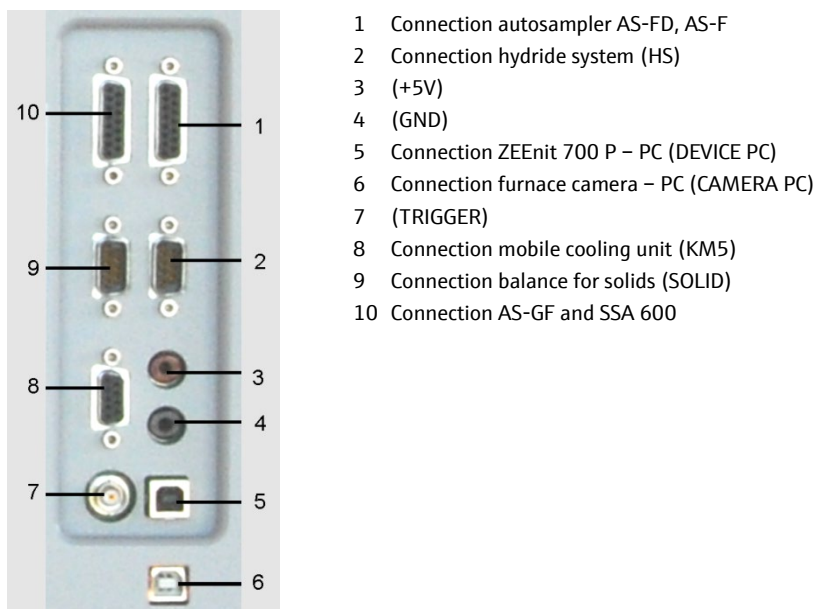

Fig. 23 Bar for supply and control connections
7. Connect the PC and the ZEEnit 700 P with USB cable (5 in Fig. 23 p. 47).
3. Connect the control cable of the KM 5 to the appropriately marked connector on the right wall of the ZEEnit 700 P (see Fig. 23).